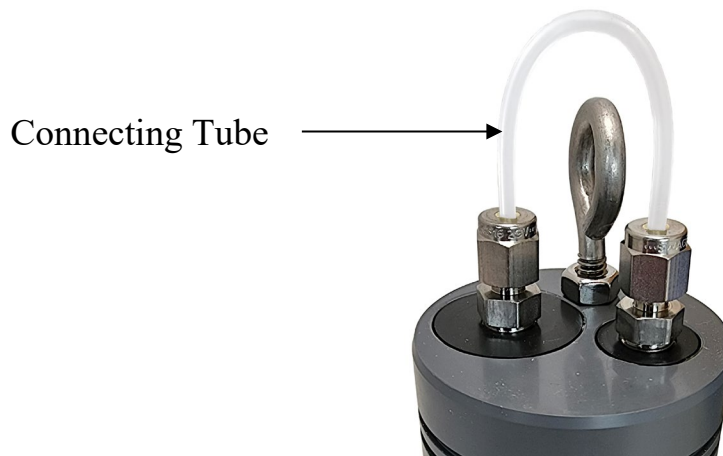

Figure 22 – Tube Connecting Vent and Liquid Sides of Reservoir
- 6) Connect the 4" (100mm) long, 1/8" diameter plastic tube to the Swagelok fittings using the supplied Swagelok caps (Figure 22). Tighten the Swagelok connectors per the instructions in Section 2.2.